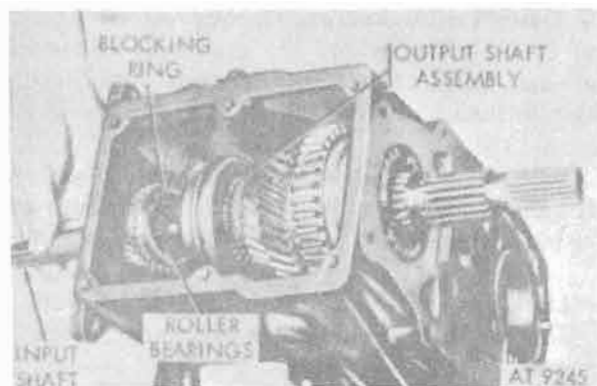

Figure 8-112. Installing front synchronizer blocking ring and input shaft assembly.
e. Install front synchronizer blocking ring to output shaft front (third- and fourth-speed) synchronizer. Then install input shaft assembly to output shaft assembly (fig. 8-112).